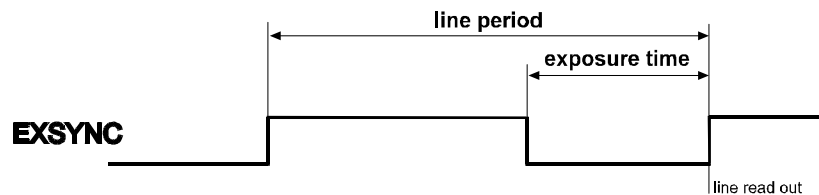

Figure 3-4: Exposure Time in Level-controlled Mode
- In the level-controlled mode the exposure time of a line being read out is determined by the time between the rising edge and the preceding falling edge of ExSync. Charge is only accumulated when ExSync is low. The line is read out and transferred with the rising edge of ExSync. See Figure 3-4.